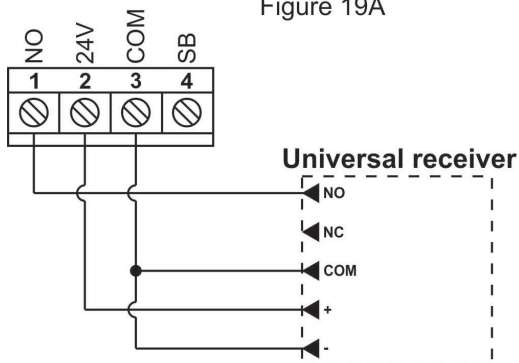

Figure 19C
- 24V DC universal receiver (Figure 19C)